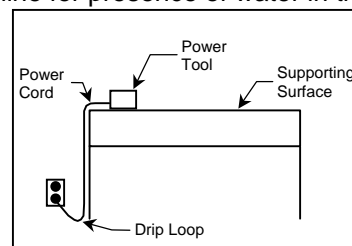

FIGURE 2
**⚠ WARNING** To avoid the possibility of the appliance plug or receptacle getting wet, position the  saw to one side of a wall mounted receptacle. This will prevent water from dripping onto the receptacle or plug. A "drip loop," shown in FIGURE 2, should be arranged by the user to properly position the power cord relative to the power source. The "drip loop" is that part of the cord below the level of the receptacle, or the connector, if an extension cord is used. This method of positioning the cord prevents the travel of water along the power cord and coming in contact with the receptacle.